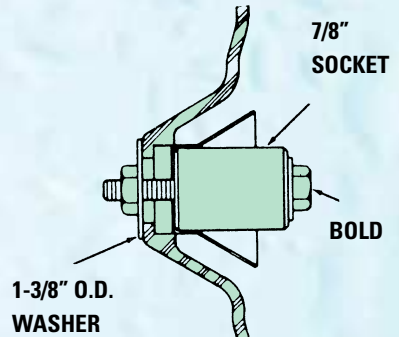

Fig. 7
C. Pull insert into cavity (see Figure 7).